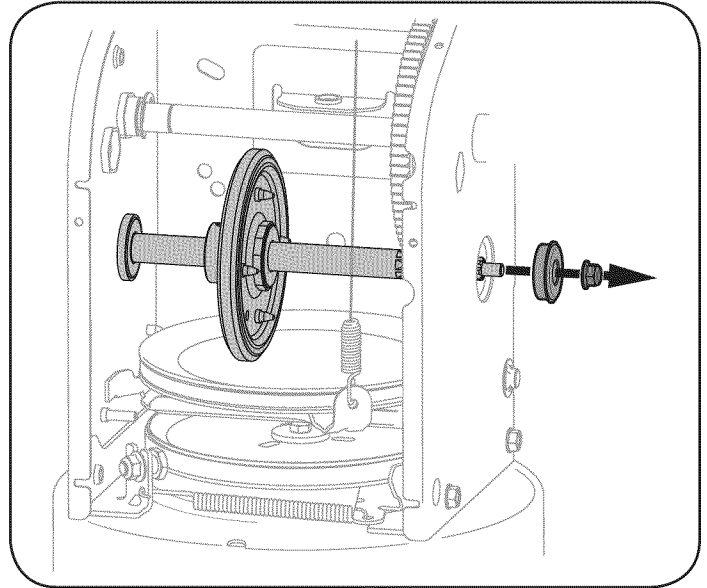

Figure 30
5. Carefully remove the hex nut and washer which secures the hex shaft to the snow thrower frame and lightly tap the shaft's end to dislodge the ball bearing from the right side of the frame. See Figure 30.